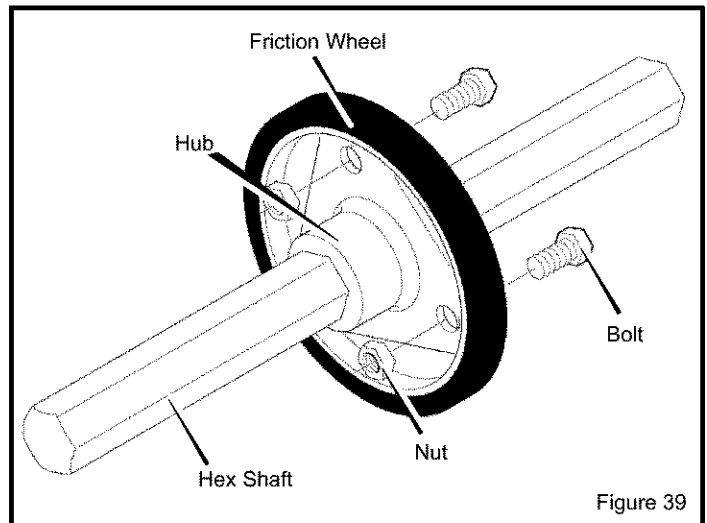

Figure 39
9. Position new friction wheel onto hub (see Figure 39). Install bearing plates to original position. Ensure hex shaft is engaged with both bearing plates.